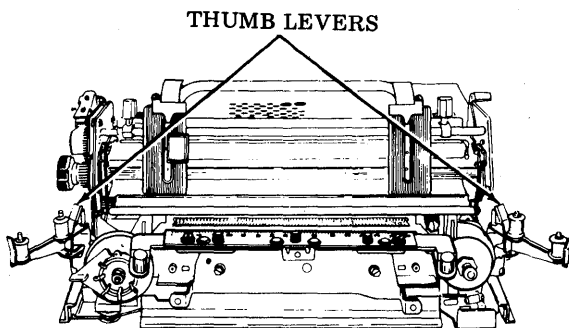

Fig. 34—Ribbon Guides Thumb Levers
- (a) Release thumb levers on left and right ribbon guide brackets allowing guides to spring open (Fig. 34).